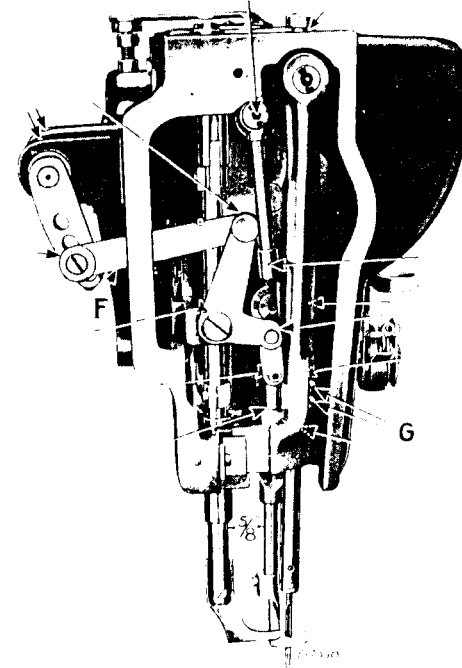

Fig. 4. End View of Machine Showing Oiling Points Also Adjustments on the Machine
In case the needle bar is not correctly set, loosen the needle bar connecting stud pinch screws at (G, Fig. 4) and place the needle bar in correct position as directed above, then retighten the screws (G).
The distance between the vibrating presser bar and lifting presser bar, after adjusting the feed mechanism so that there is no feed movement of the needle bar, should be $\frac{3}{8}$ inch as shown in Fig. 4.
The height of lift of the pressers is adjustable by moving the link (F, Fig. 4) to any of the four holes in the rock shaft crank. The maximum lift is secured with the link in the bottom hole. The amount of lift should be regulated according to the thickness of the material being sewn. The feet should lift just high enough to clear the material.